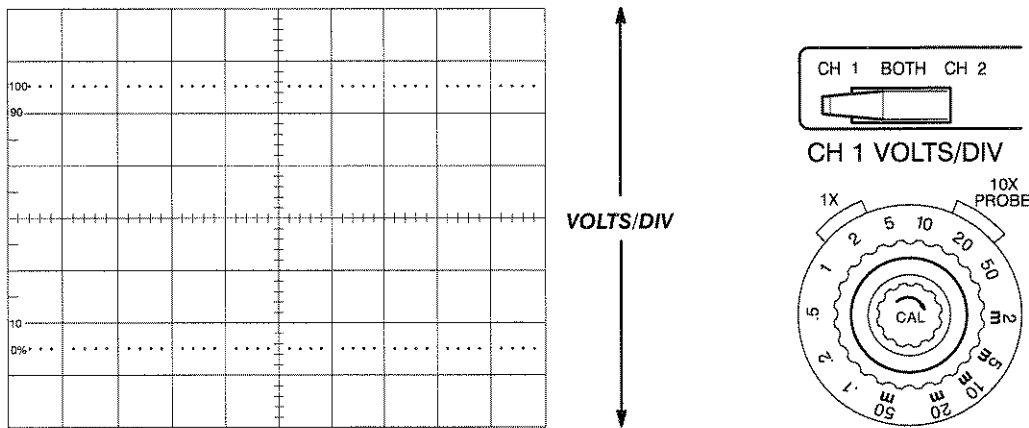

Figure 3-3: Vertical Display Controls
- Step 3:** Set the vertical scale (or attenuation factor) for the display by turning the volts/division knob of the selected channel (Figure 3-3). Choose a setting that is several times higher than the amplitude of the signal. This will keep the display from going off screen.